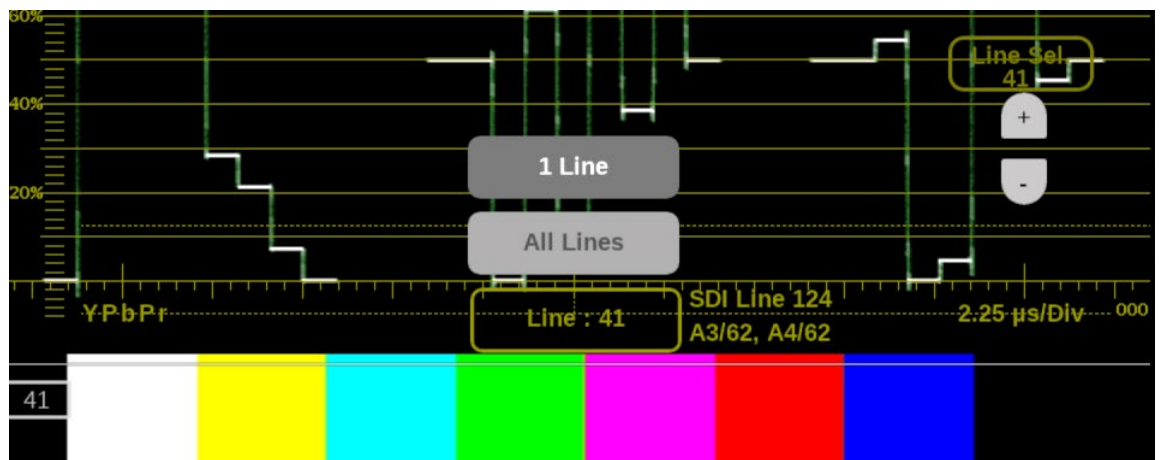

Figure 219: Lightning on-screen tools – SDI Line number
- If a signal is UHD, 4K (see Figure 219):